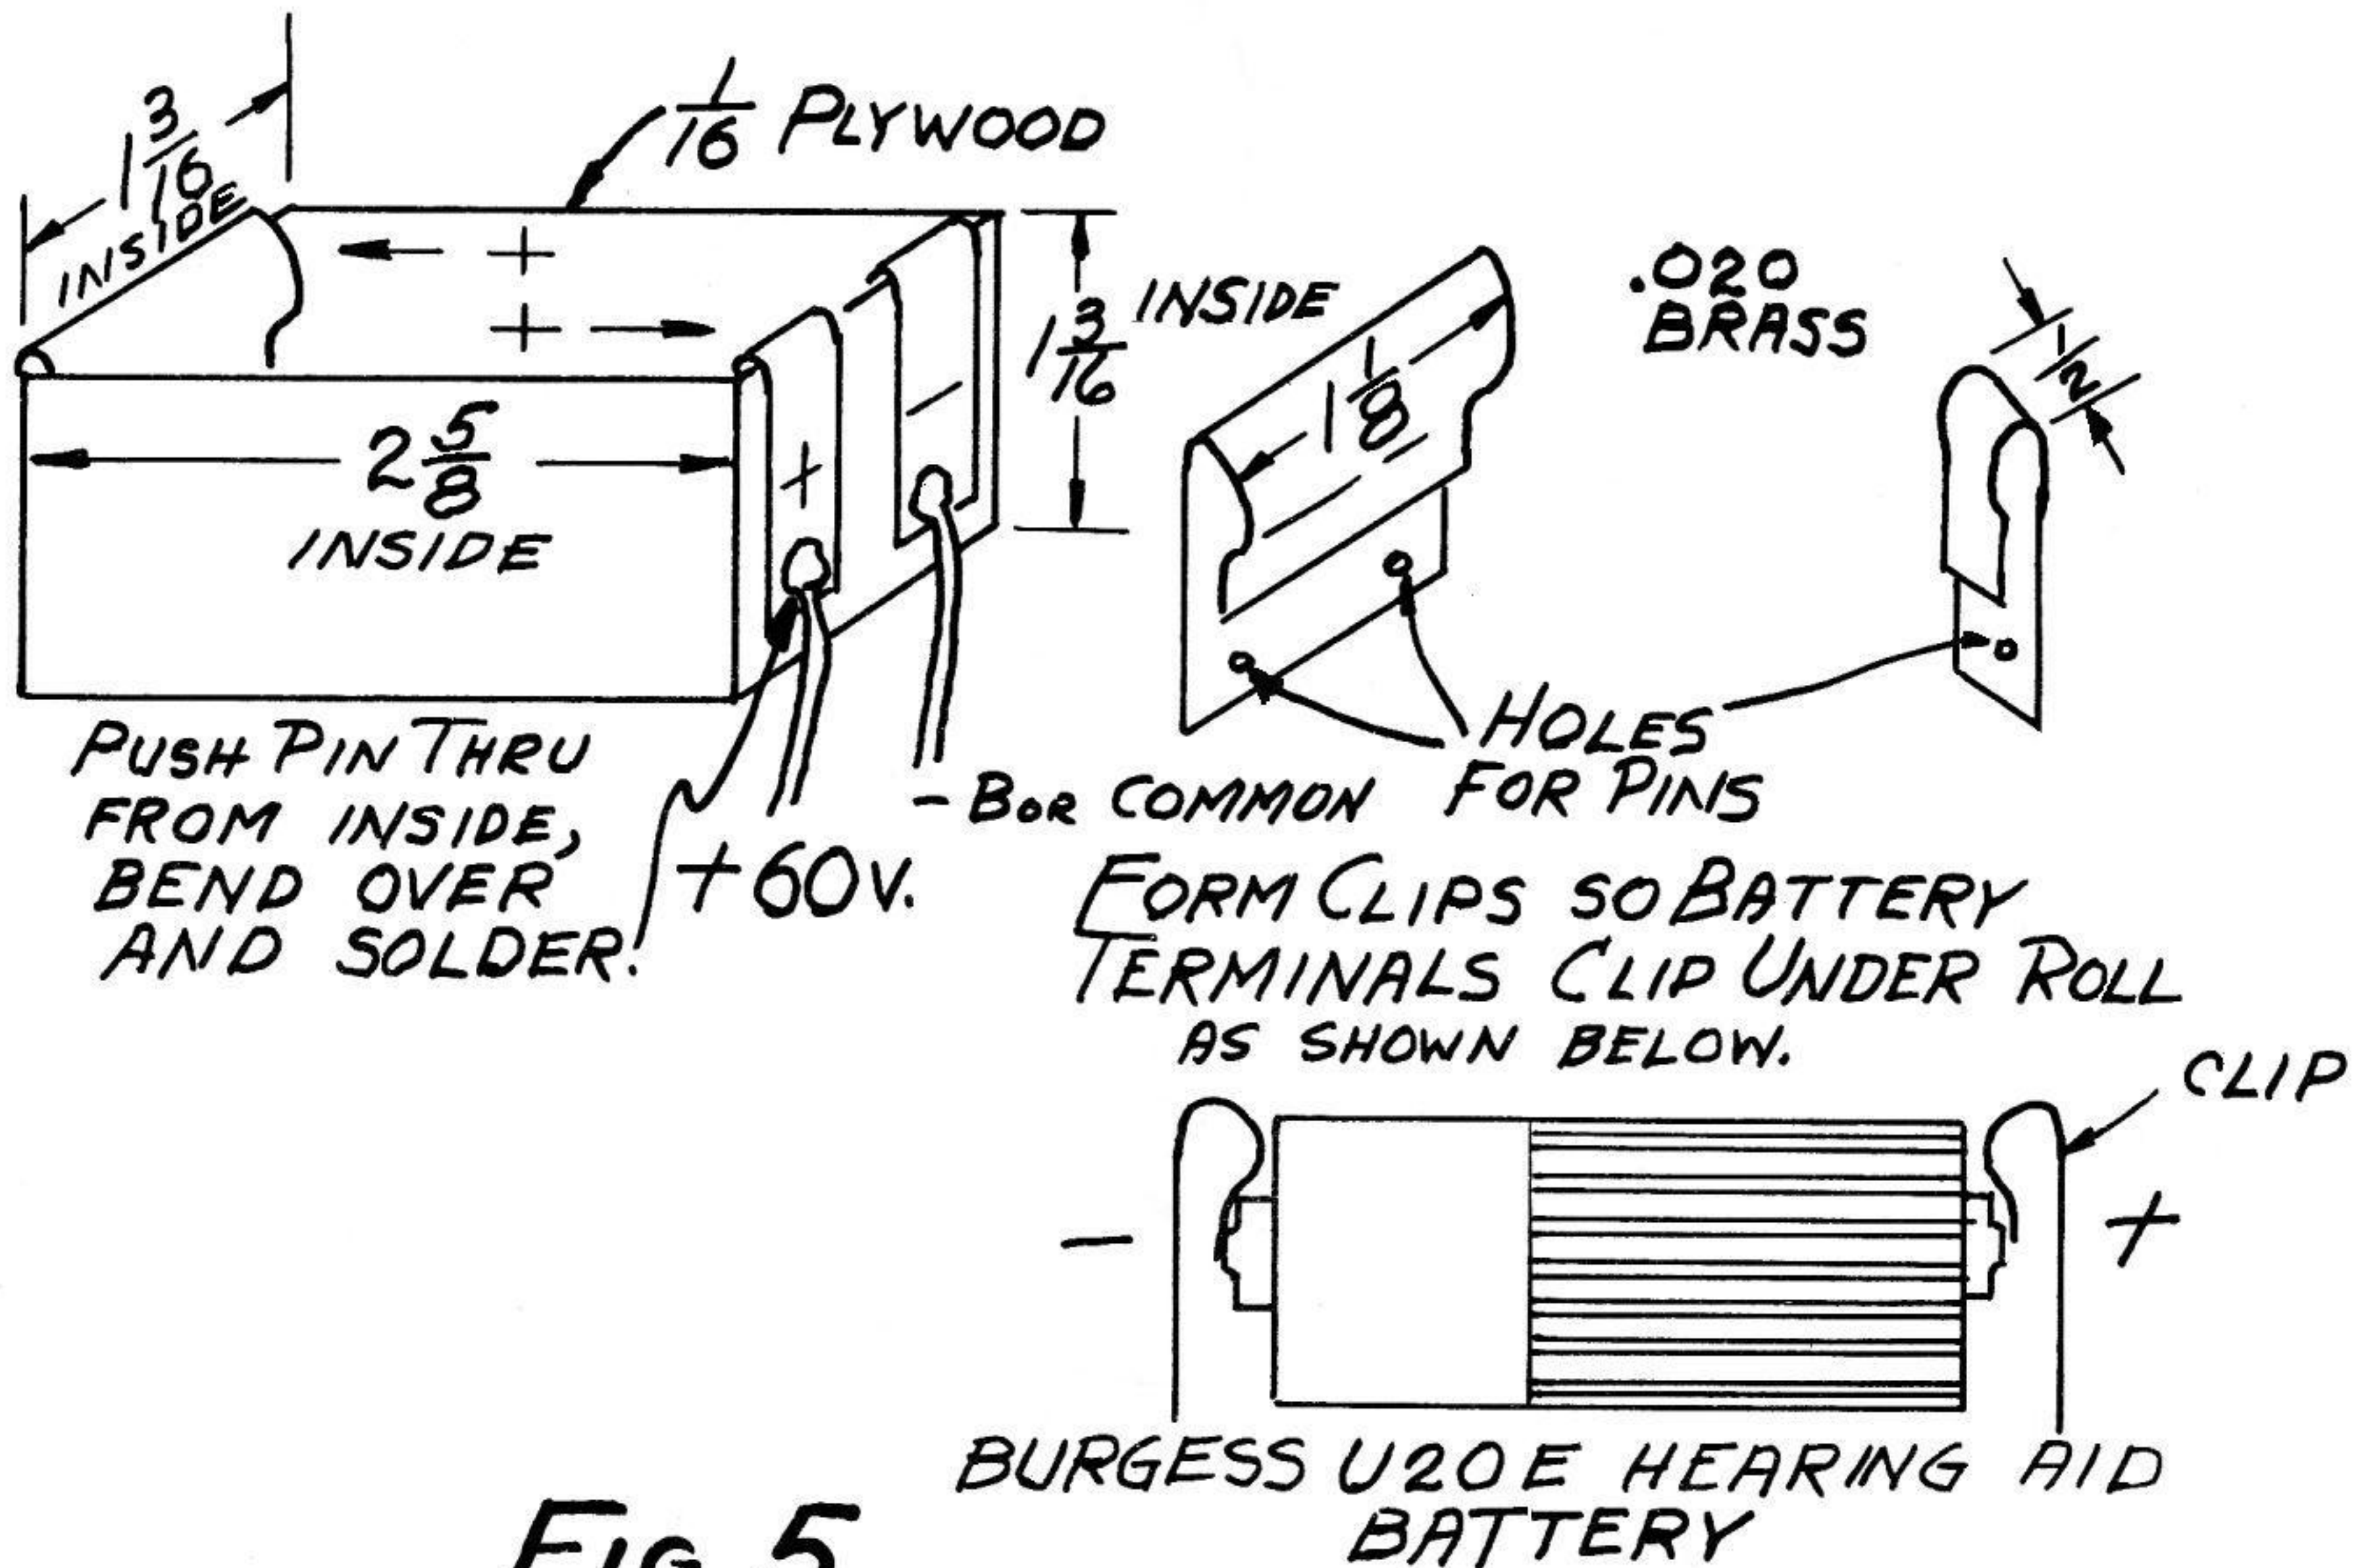

Fig 5
5.2 Figure 5 shows a simple way of making a battery box to hold the U20E hearing aid batteries and how they should be inserted to get 60 volts. The box and batteries may then be glued in place or held with rubber bands to obtain balance of plane. Since these batteries should last several months, leads may be soldered direct. If the 67-1/2 volt type 457 "B" battery is used, the terminals are marked.